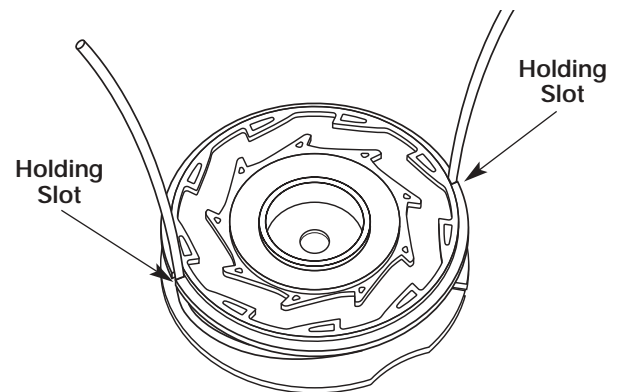

Fig. 16
13. Insert the ends of the line into the two holding slots (Fig. 16). Leave about 4 inches (102 mm) of line beyond the holding slots.